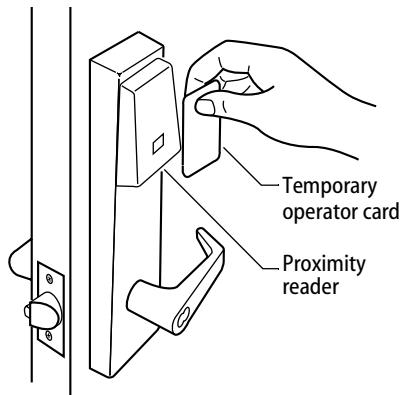

Figure 20
- 1 Place the temporary operator card in front of the proximity reader, as shown in Figure 20.